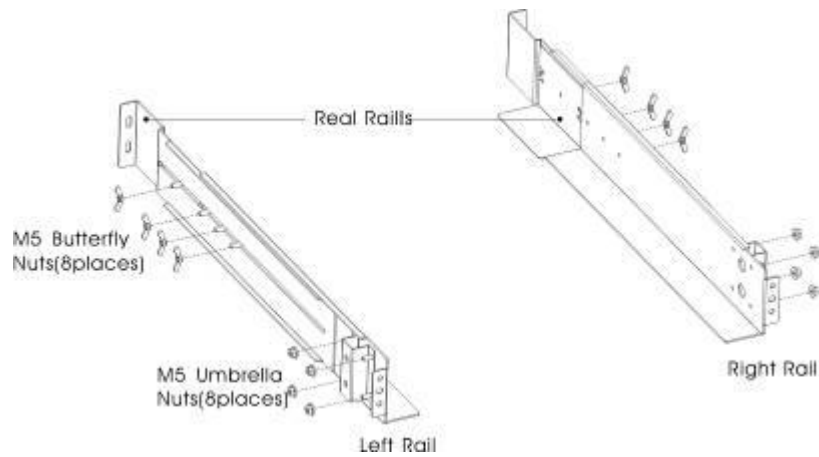

Figure 1 Securing the Rails
(1) To install the rail kit
- Assemble the left and right rails to the rear rails as shown in Figure 1. Do not tighten the screws.
- c) Tighten four M5 Umbrella Nuts in the side of rail assembly (see Figure 1).